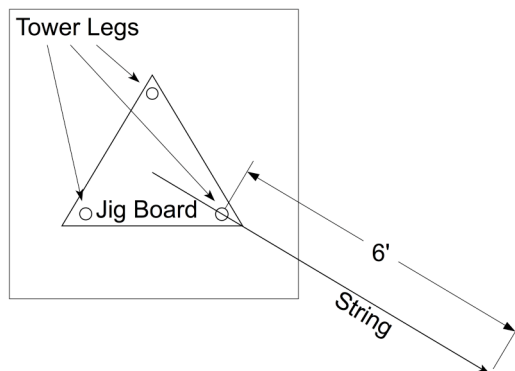

Figure 4. Diagram of a jig used to mark guy wire anchor positions for a 3-meter tower.
10. Mark the positions of the guy wire anchors, using a jig that fits on the three tower-base leg mounts (see Figure 4 below). The jig should have a string attached to the center of the jig that extends 6 feet past the tower leg. Pull the string taut and position it so that it passes directly over the center of the tower leg to which each guy wire will be attached to mark each of the three anchor positions. Install the guy wire anchors into the ground at the marked positions.